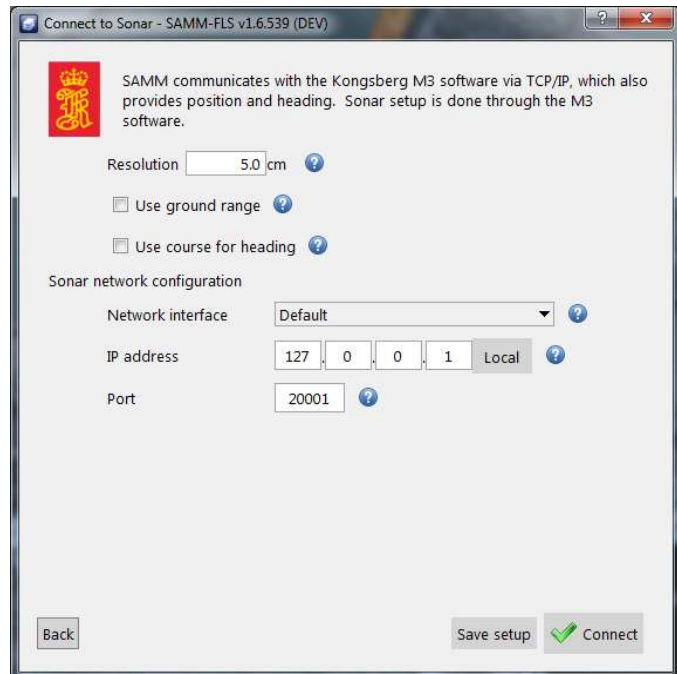

Figure 40. M3 Interfacing
6. In the M3 interface window (Figure 40), set processing parameters as necessary.